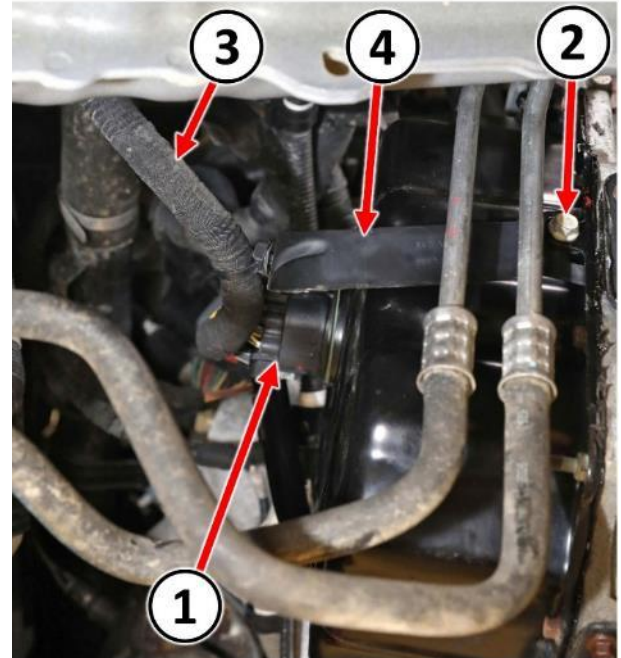

**Figure 9 – Electrical Connector**
15. Disconnect the solenoid pack electrical connector (1) at valve body oil pan (Figure 9).
16. Remove the bolt (2) securing the wire harness bracket (4) to the transmission then position the wire harness (3) and bracket (4) aside (Figure 9).